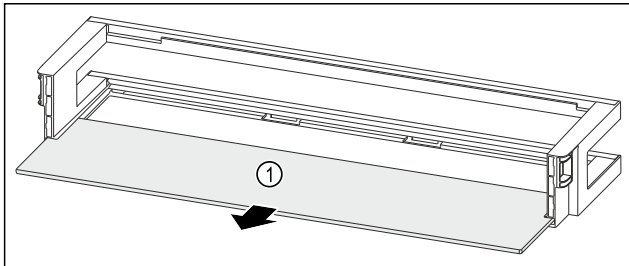

Fig. 126 Door rack with shelf
- ▶ Remove the shelf Fig. 126 (1).